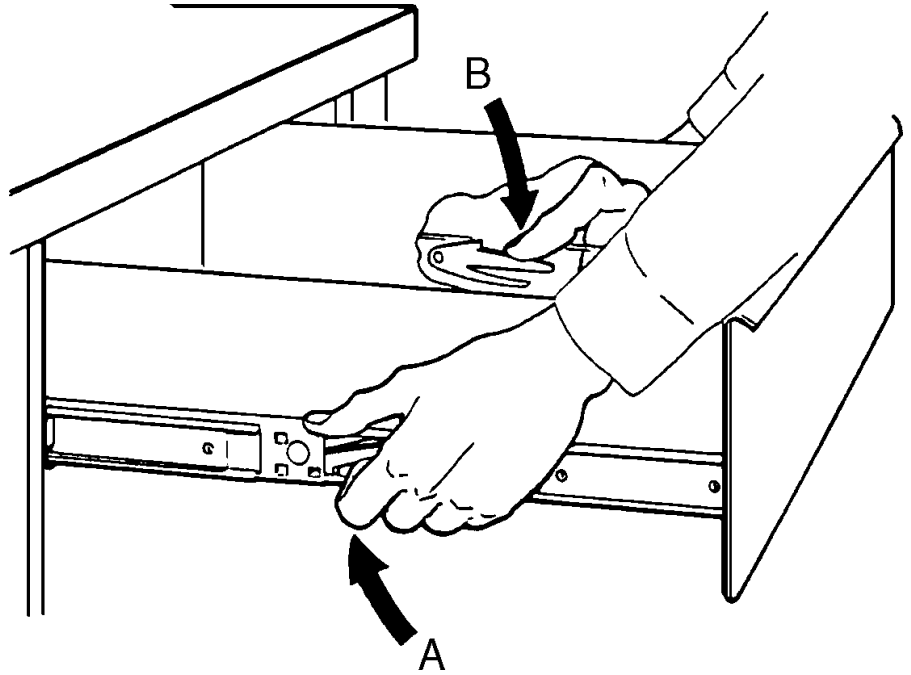

Figure 4. Drawer Removal
To remove a drawer, pull the drawer out until it stops. Notice the locking levers located inside the track that is attached to the drawer. Lift the left lever (A) while pressing down on the right lever (B) (See Figure 4.). Pull the drawer clear on the slides.